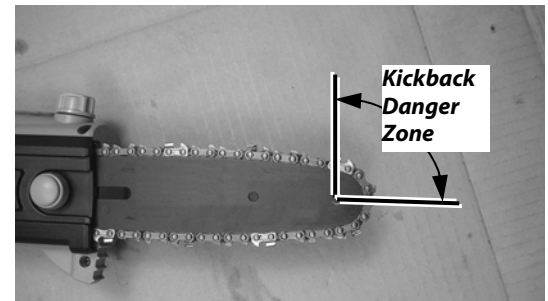

Figure 17
- Do not let the Kickback danger Zone area of the Guide Bar contact a log, Branch, fence or any other obstruction that could be hit while you are operating the Saw (**Figure 17**).